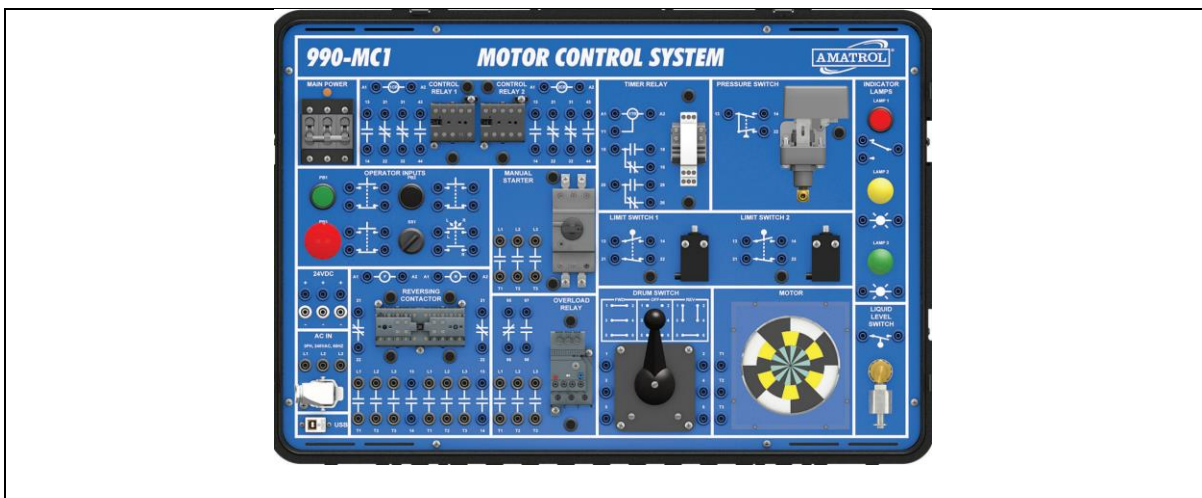

Figure 1. The Amatrol Motor Control Training Unit at South Ark CC.
1. Figure 1 shows the Amatrol Motor Control Training unit that the simulations will be designed around. This is the training unit that will be used by the students in the hardware lab.